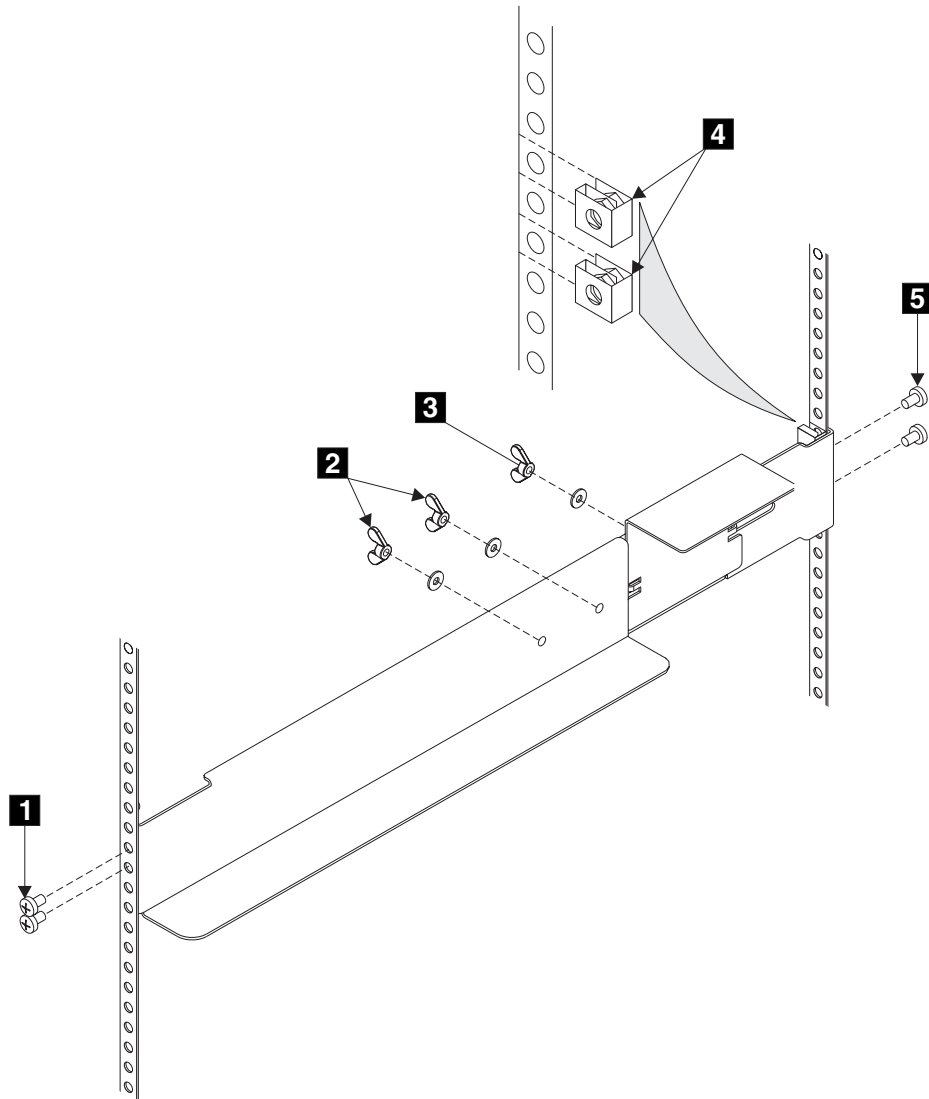

Figure 105. Installing support rails for a 2145 uninterruptible power supply into the rack
1. Attach nut clips **4** to the rack (see Figure 105 on page 122). These nut clips must align with the second and fourth holes of the support rail flange.